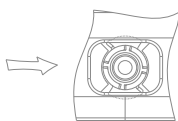

Fig.2
1. Rotate the outlet clockwise by 90° to the position shown in Fig.2;